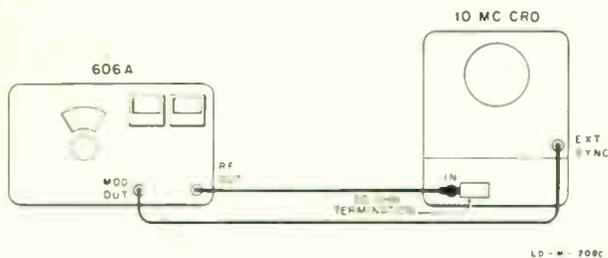

Figure 4-2. Modulation Meter Calibration
- a. Connect the unit to a 10 mc oscilloscope as shown in figure 4-2.